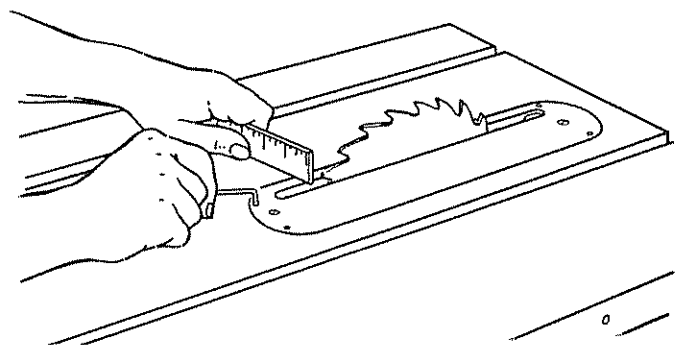

Figure 15
- c. With the table insert in place, use a small scale or straightedge to check near each of the four set screw positions, in order to determine if the table insert is even with saw table surface at all four set screw positions. (See figure 15.)
- d. If an adjustment is necessary, rotate each of the four set screws (or as many as required) with a 3/32-inch hex-L wrench until the surfaces are even. (See figure 15.) Make sure that ends of all four set screws are making contact with table recess by pressing on the insert at each set screw location. If the insert "rocks" when pressed at any position, adjust set screws until the "rocking" is eliminated.